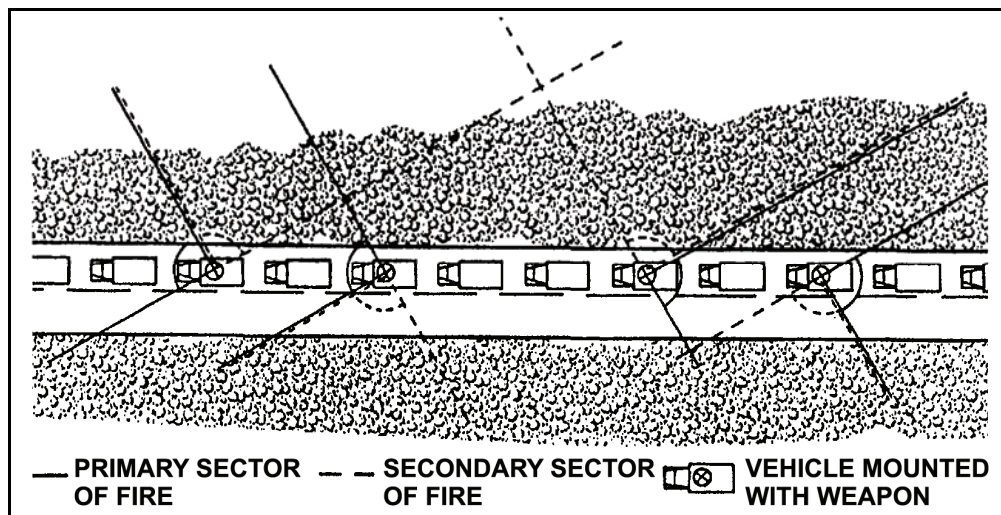

Figure A-14. March column with four machine guns.
- Machine guns used to defend march columns should be interspersed in the convoy, with emphasis on the lead and rear elements (Figure A-14).